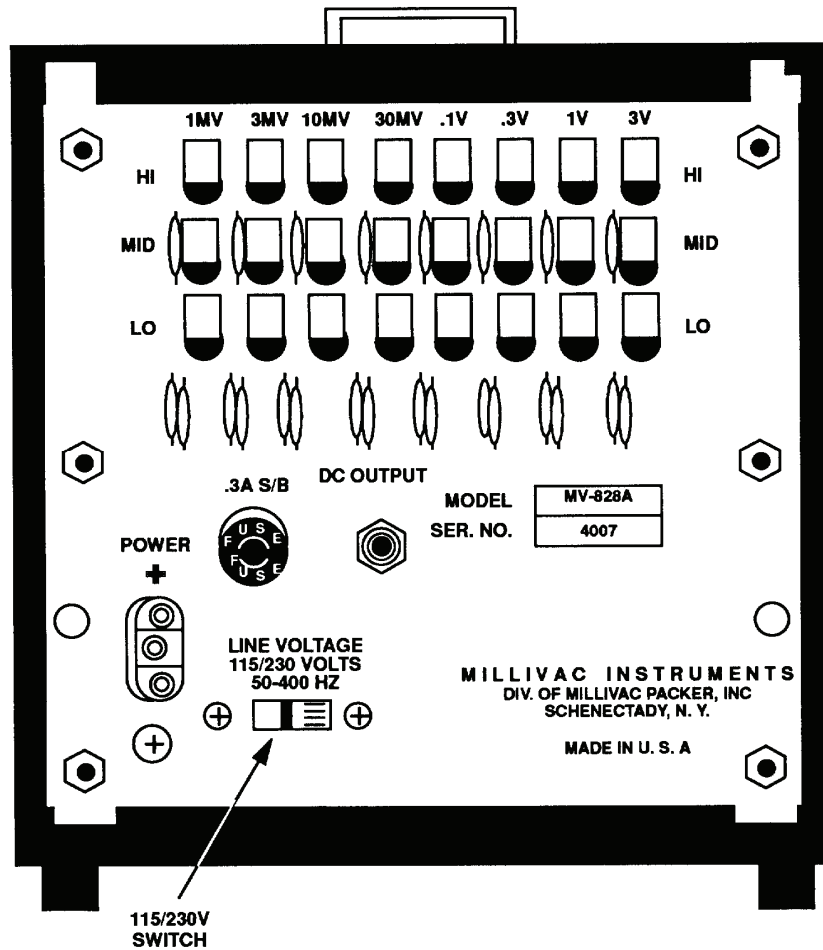

Figure 1. AN/URM-145D - adjustment locations.
- (3) Connect TI RF probe to calibrator **WIDEBAND OUTPUT**.
- (4) Adjust calibrator for 0.001 V ac output. Adjust **1MV HI** (fig. 1) for a meter indication between 0.0009 and 0.0011 mV (ideal 0.001) (R).
- (5) Adjust calibrator for .0006 V ac output. Adjust **1MV MID** (fig. 1) for a meter indication between 0.0005 and 0.0007 V ac (ideal 0.0006) (R).
- (6) Adjust calibrator for 0.0003 V ac output. Adjust **1MV LO** (fig. 1) for a meter indication between 0.0002 and 0.0004 V ac (ideal 0.0003) (R).
- (7) Repeat (4) through (6) above until no further adjustments are required.
- (8) Disconnect TI RF probe from calibrator output.
- (9) Set **TI RANGE-FULL-SCALE** switch to **.003-VOLTS**.
- (10) Short TI RF probe to chassis and adjust **SET REF** control until meter pointer is at **SET REF** mark.
- (11) Connect TI RF probe to calibrator **WIDEBAND OUTPUT**.
(12) Adjust calibrator for 0.003 V ac output. Adjust **3MV HI** (fig. 1) for a meter indication between 0.00285 and 0.00315 V ac (ideal 0.003) (R).
(13) Adjust calibrator for 0.002 V ac output. Adjust **3MV MID** (fig. 1) for a meter indication between 0.00185 and 0.00215 V ac (ideal 0.002) (R).
(14) Adjust calibrator for 0.001 V ac output. Adjust **3MV LO** (fig. 1) for a meter indication between 0.00085 and 0.00115 V ac (ideal 0.001) (R).
(15) Repeat (12) through (14) above until no further adjustments are required.
(16) Set TI **RANGE-FULL-SCALE** switch to **.01-VOLTS**.
(17) Adjust calibrator for 0.01 V ac output. Adjust **10MV HI** (fig. 1) for a meter indication between 0.0095 and 0.0105 V ac (ideal 0.01) (R).
(18) Adjust calibrator for 0.006 V ac output. Adjust **10MV MID** (fig. 1) for a meter indication between 0.0055 and 0.0065 V ac (ideal 0.006).
- (19) Adjust calibrator for 0.003 V ac output. Adjust **10MV LO** (fig. 1) for a meter indication between 0.0025 and 0.0035 V ac (ideal 0.003) (R).
- (20) Repeat (17) through (19) above until no further adjustments are required.
- (21) Set TI **RANGE-FULL-SCALE** switch to **.03-VOLTS**.
- (22) Adjust calibrator for 0.03 V ac output. Adjust **30MV HI** (fig. 1) for a meter indication between 0.0285 and 0.0315 V ac (ideal 0.03) (R).
- (23) Adjust calibrator for 0.02 V ac output. Adjust **30MV MID** (fig. 1) for a meter indication between 0.0185 and 0.0215 V ac (ideal 0.02) (R).
- (24) Adjust calibrator for 0.01 V ac output. Adjust **30MV LO** (fig. 1) for a meter indication between 0.0085 and 0.0115 V ac (ideal 0.01) (R).
- (25) Repeat (22) through (24) above until no further adjustments are required.
- (26) Set TI **RANGE-FULL-SCALE** switch to **.1-VOLTS**.
- (27) Adjust calibrator for 0.1V ac output. Adjust **.1V HI** (fig. 1) for a meter indication between 0.095 and 0.105 V ac (ideal 0.1) (R).
- (28) Adjust calibrator for 0.06 V ac output. Adjust **.1V MID** (fig. 1) for a meter indication between 0.055 and 0.065 V ac (ideal 0.06) (R).
- (29) Adjust calibrator for 0.03 V ac output. Adjust **.1V LO** (fig. 1) for a meter indication between 0.025 and 0.035 V ac (ideal 0.03) (R).
- (30) Repeat (27) through (29) above until no further adjustments are required.
- (31) Set TI **RANGE-FULL-SCALE** switch to **.3-VOLTS**.
- (32) Adjust calibrator for 0.3 V ac output. Adjust **.3V HI** (fig. 1) for a meter indication between 0.285 and 0.315 V ac (ideal 0.3 V) (R).